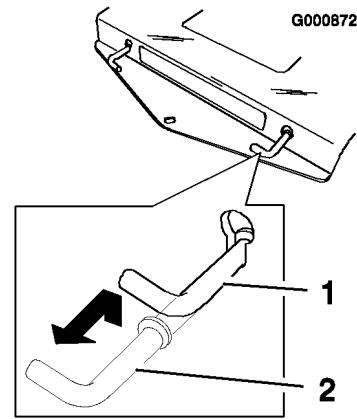

Figure 17
3. Pull the two bypass levers up and push them until the washer on the rod passes through the slot. Push the levers down to lock them in place (Figure 17).
Pull each bypass lever up and pull them completely out. Push the levers down (Figure 17).